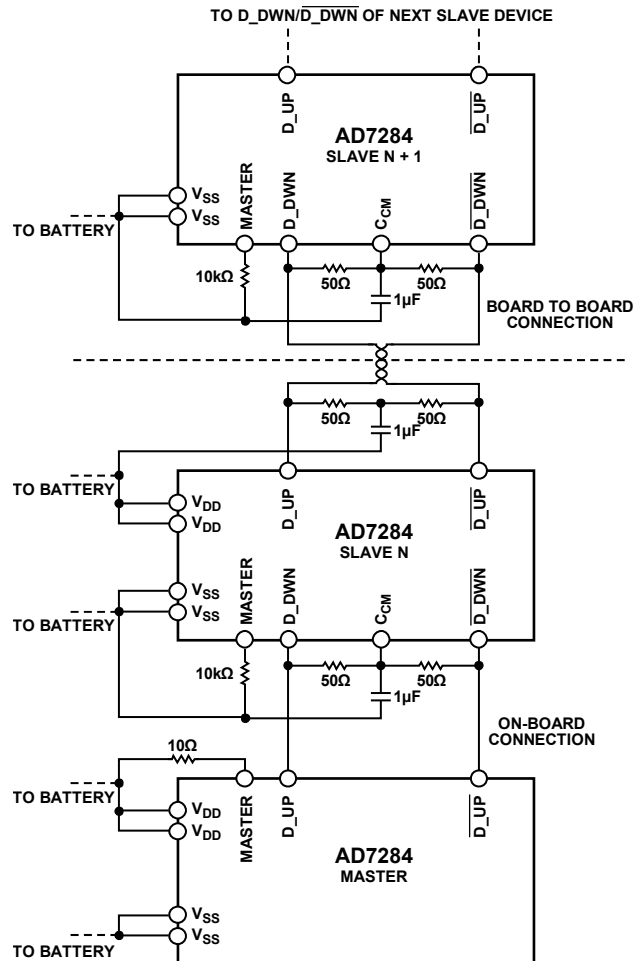

Figure 40. AD7284 Daisy-Chain Interconnection Examples
The daisy-chain interface consists of a differential daisy chain for up paths (D_UP/D_UP) and down paths (D_DWN/D_DWN). When multiple devices are configured in a chain, the up paths from the master are connected to the down paths of the adjacent slave. Similarly, the up paths on the other side of the slave device interfaces to the down path of the next adjacent slave device, and so on, as shown in Figure 40.
Additional protection circuitry beyond what is shown in Figure 40 may be required on the daisy-chain pins for hot plug and service disconnect (see the Hot Plug section and the Service Disconnect (SD) section).